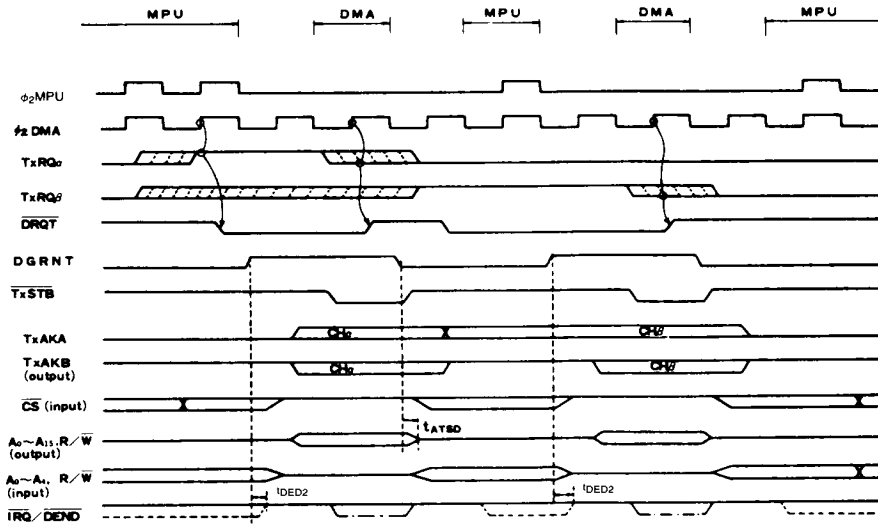

Figure 24 Channel Change (TSC Mode → TSC Mode)
- (2) From TSC mode to TSC mode (Fig. 24)
- (3) From HALT mode to TSC mode
- (4) From TSC mode to HALT mode
The timing in the case where the next byte is transferred without changing the channel is shown in Fig. 26. This is the case of HALT → HALT mode. In this case, the bus control returns to MPU, before the next byte is transferred. In the case of TSC → TSC mode, its timing is almost the same as than in Fig. 24, that is, after 1-byte transfer has completed, MPU executes the Instruction Cycle for one clock and then DMAC executes 1-byte transfer again.